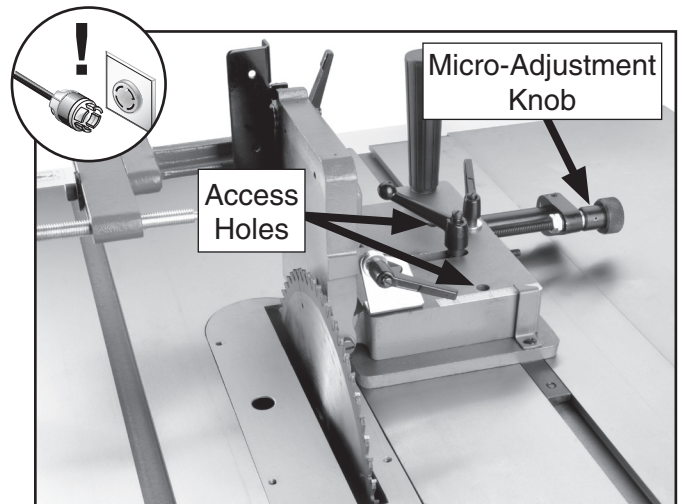

Figure 11. Blade parallelism.
6. Observe the contact of the saw blade and the work support plate as shown in **Figure 11**.
7. Loosen the large lock lever and turn the micro-adjustment knob to align the access holes (**Figure 11**) with the guide bar screws.